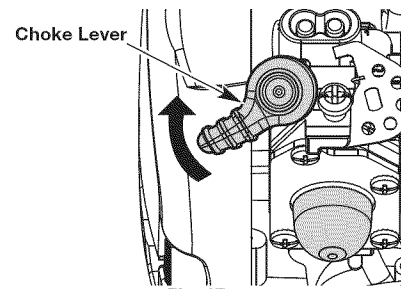

Fig. 17
- Flip the choke lever clockwise until it clicks (Fig. 17).